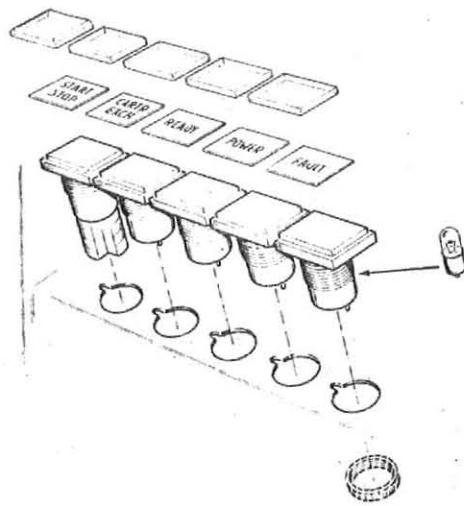

Figure 7-34
5.12 PUSH BUTTON AND INDICATORS (figure 7-34)
5.13 LAMP PUSH BUTTON AND INDICATORS (figure 7-34)